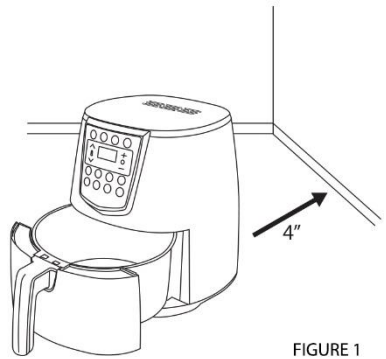

FIGURE 1
3. Place the appliance on a flat, horizontal and stable surface (make sure surface is heat-resistant). Place away from walls and other appliances. Leave approximately 4 inches of space from nearby objects (see Figure 1).